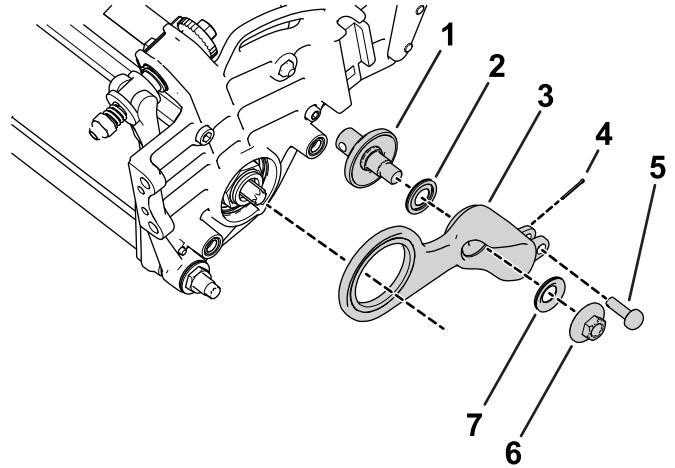

Figure 10
1. Assemble the loose parts to the idler assembly as shown in Figure 10.